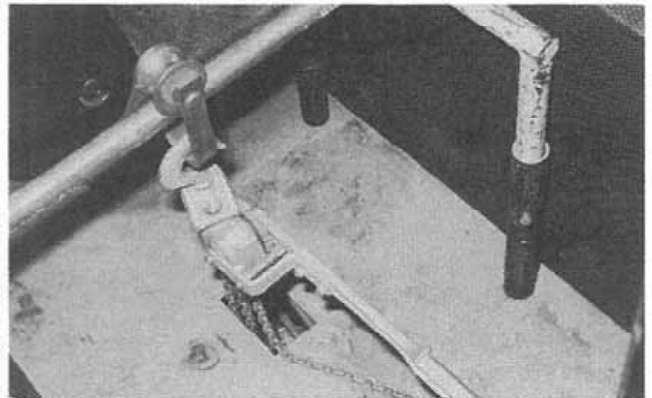

Figure 13:
16. Install clevis pins, three-eighths of an inch (3/8") in diameter, through the lift stand extensions. Slip the extensions onto the lift stand legs (Fig. 13). Hook the lifting hoist onto the roller/yoke assembly. Place the lower hoist hook through the transfer case lifting fixture and remove all slack in the lift hoist chain.